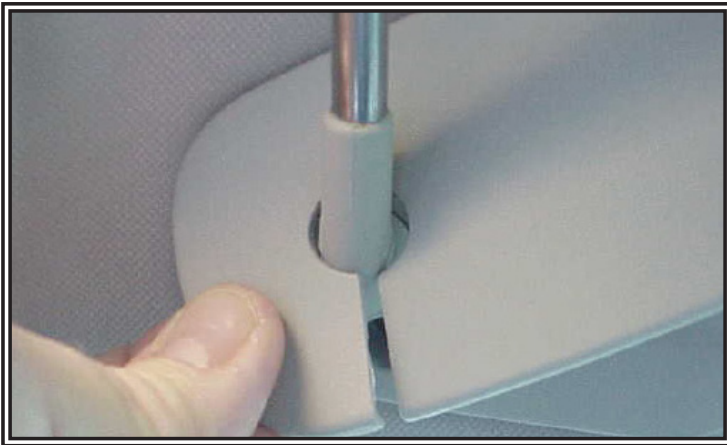
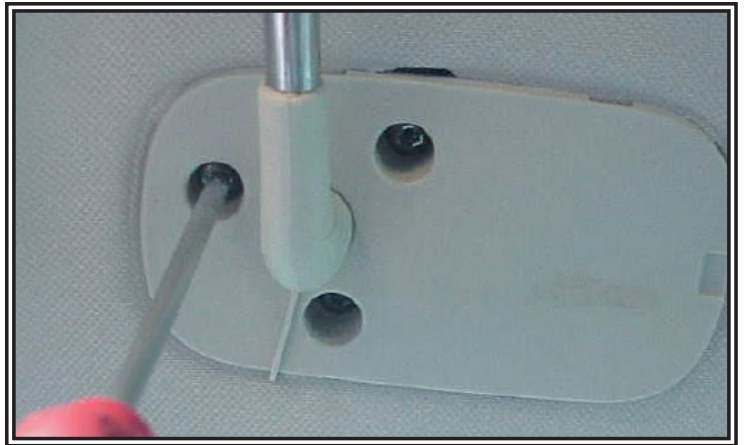

Figure 1
Figure 2
Step 1. Remove the plastic covers from the driver and passenger outer sun visor pivot brackets as shown in Figure 1. Remove the three (3) Torx screws from each pivot bracket as shown in Figure 2. Pull the visor pivot brackets down from the headliner & carefully disconnect the vehicle's vanity mirror light wire connectors. Thread the screws all the way back into the plastic pivot bracket for easier assembly later.